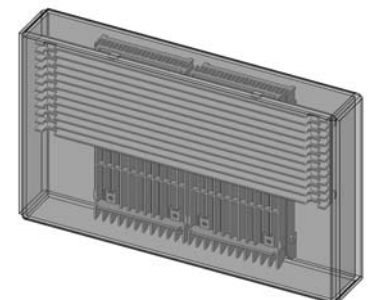

Figure 4 – Grille package
- ✓ The third contains the grille (fig. 4)